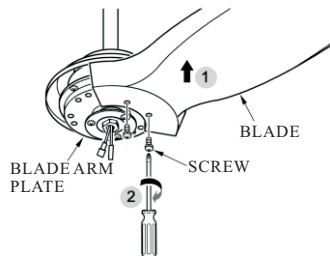

FIG.10
1. Attach each blade assembly to the blade arm plate using the blade screws. Tighten them securely. (See Fig.10)